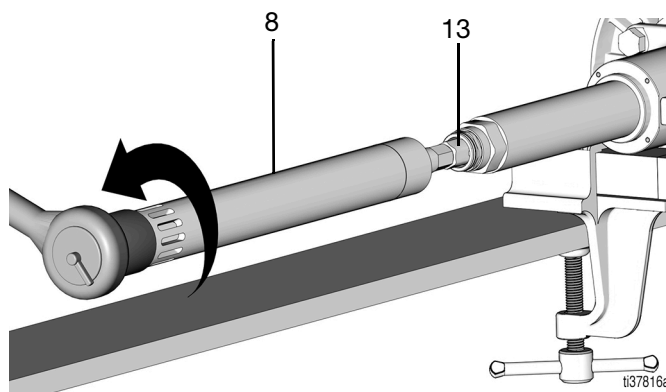

FIG. 8
10. Using a 1-15/16 in. socket, loosen the inlet pump cylinder (8) and expose the hex on the connecting rod (13) (FIG. 8).